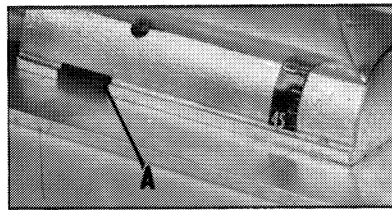

Fig. 9
trunnion (A) Fig. 9, and between the clip and the trunnion. Set the guide for the desired width of cut and firmly tighten the locking screw.